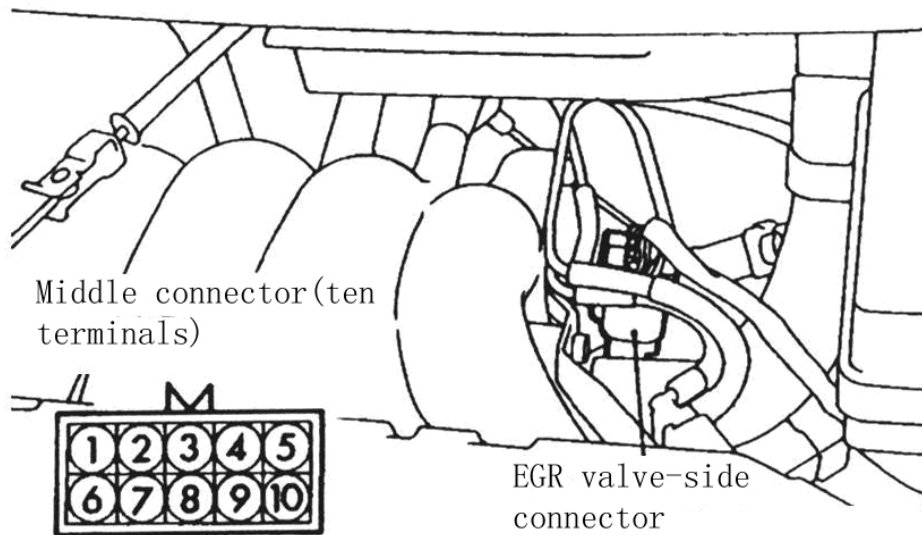

Fig.10-15
- Disconnect the EGR valve connector, see Fig.10-15.